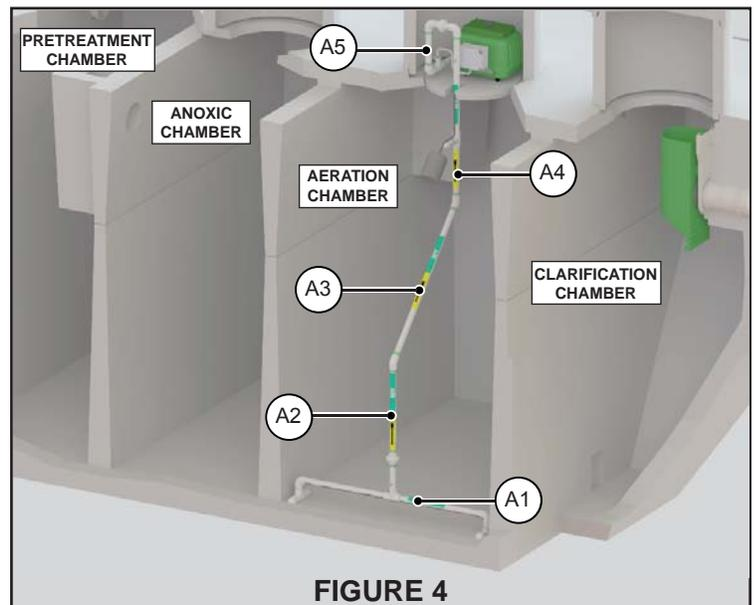

FIGURE 4
1. Remove the contents from red mesh bag with components labeled "AIR". Attach diffuser bar A1 to subassembly A2 at union as shown in Figure 4. Securely tighten union by hand.
2. Solvent weld subassembly A2 to subassembly A3 as shown in Figure 4. Insure red arrows are aligned.
3. Solvent weld subassembly A3 to subassembly A4 as shown in Figure 4. Insure blue arrows are aligned.
4. Install this entire assembly into aeration chamber by bending the flexible tubing. Lower assembly into the tank until the diffuser bar contacts both the floor and side wall of the tank as shown in Figure 4.
6. Install the air pump in the aeration chamber riser on the support base (or in a clean, dry, well-ventilated area protected from the elements no more than 75' from the tank). Attach subassembly A4 to subassembly A5 at union as shown in Figure 4. Securely tighten union by hand.